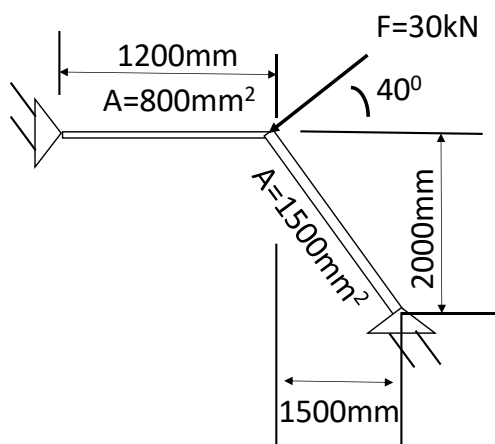

Fig. 4a
- 4 a) For the truss shown in Fig. 4a, determine the nodal displacements, element strains and stresses. The material of the truss is Aluminium with a Young's modulus of 78 GPa.